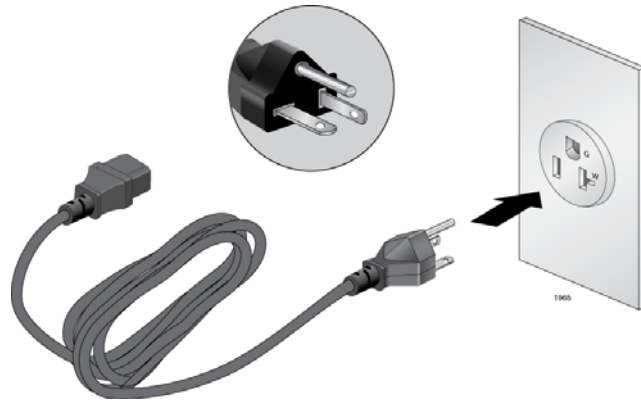

Figure 24. 100 - 125 VAC 125 V NEMA 5-20 Plug and Receptacle
- ☐ The power cords provided with the AT-SBxPWRSYS1, AT-SBxPWRSYS2, and AT-SBxPWRPOE1 Power Supplies for 100-125 VAC installations have 20 Amp, 125 V NEMA 5-20P plugs. The plugs are only compatible with NEMA 5-20R receptacles. See Figure 24 on page 79.